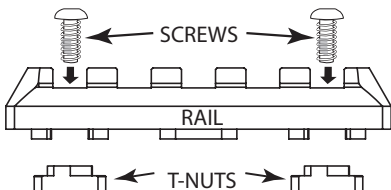

FIGURE B3
- Your MagPul[®] M-LOK[®] accessory may arrive with nuts and nylon patched (thread lock material) screws installed or with the nuts and screws loose with the accessory you have purchased. If the screws are loose, simply thread the nuts onto the screws through the accessory rail as shown (FIGURE B3).